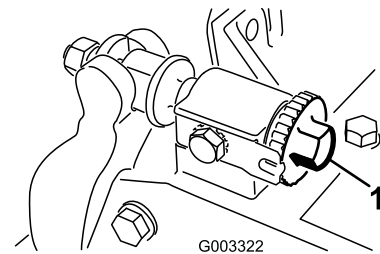

Figure 10
2. Turn the bedbar-adjusting screws counterclockwise to ensure that the bedbar does not contact the reel (Figure 10).